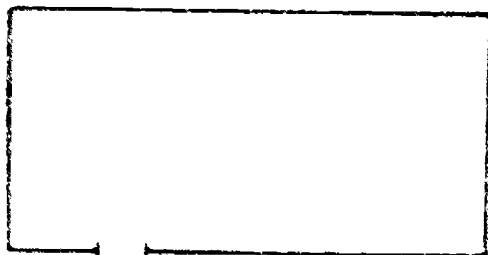

Figure 2
- \_\_\_\_\_ a. Figure 2 above is an electrical circuit.
- \_\_\_\_\_ c. Figure 2 is not an electrical circuit because it is open and therefore not a complete path for current flow.